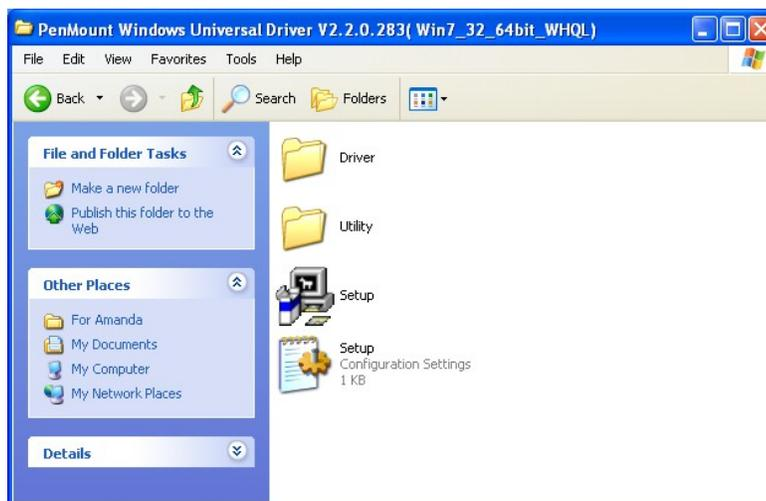

Figure 4-1: Setup Icon
- Step 3:** Select the **Touch Screen** option in the menu of driver CD. The directory in **Figure 4-1** appears.
Step 4: Double click the setup icon in **Figure 4-1**.